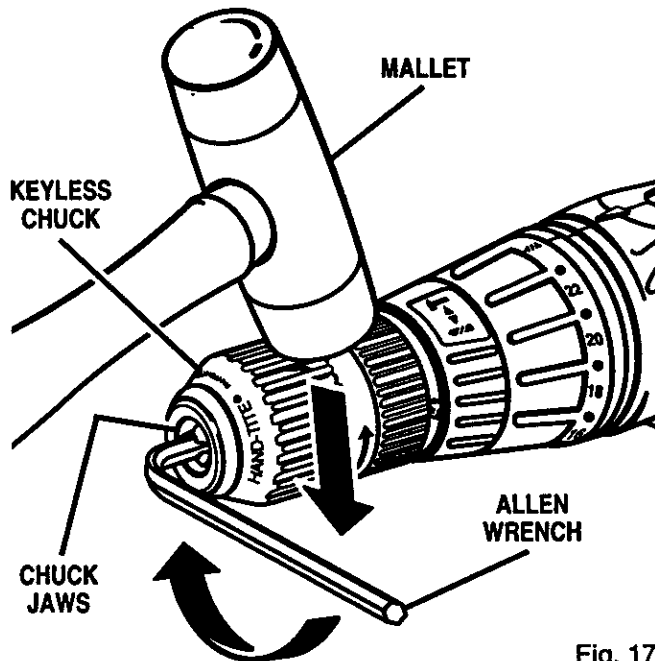

Fig. 17
See Figures 17, 18, and 19.
- Tap the allen wrench sharply with a mallet in a clockwise direction. See Figure 17. This will loosen the screw in the chuck for easy removal.